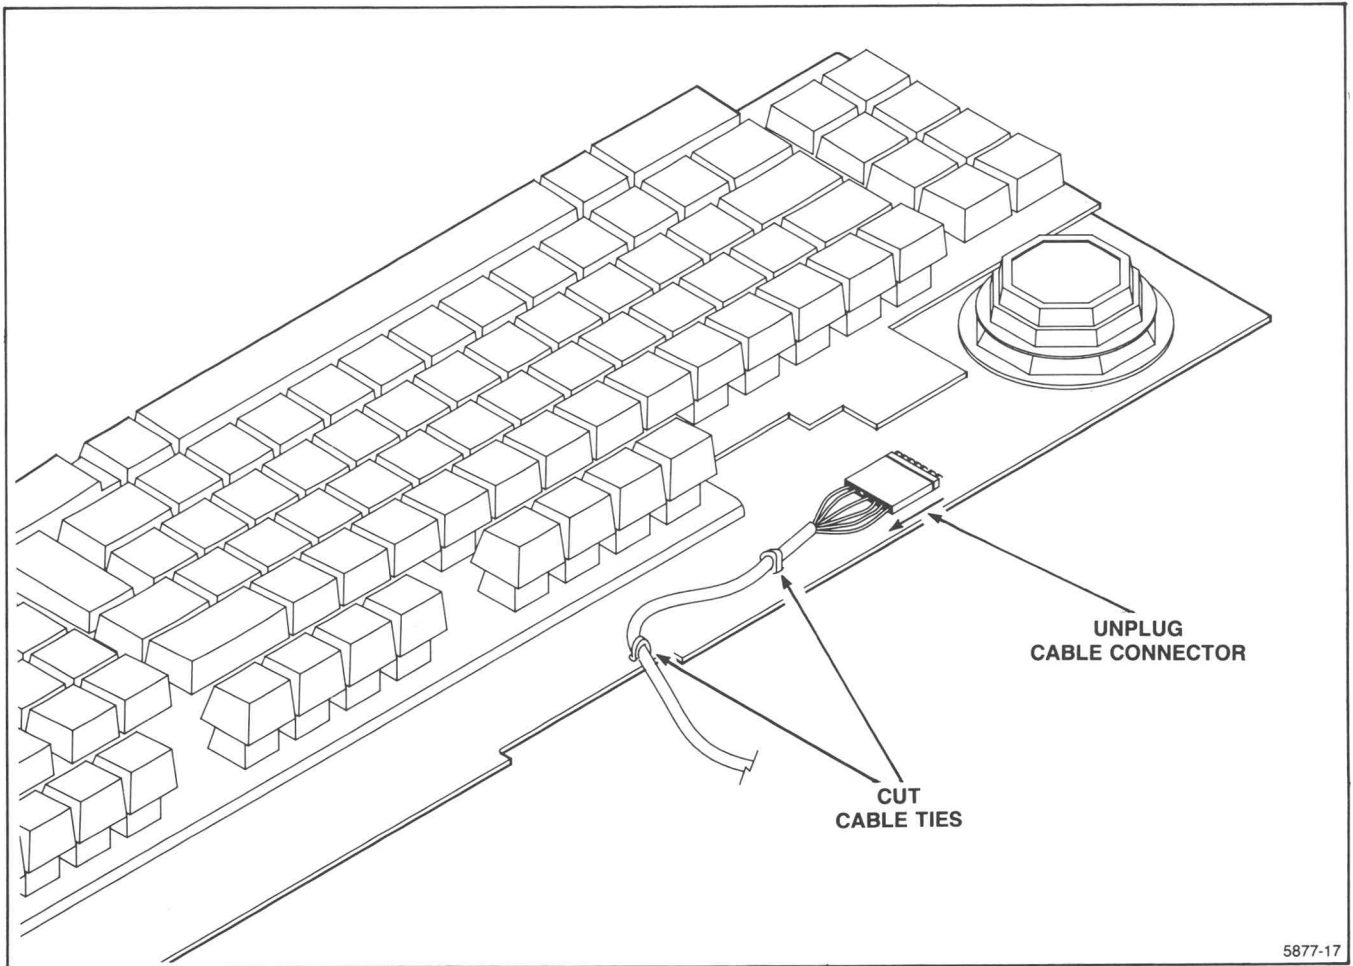

Figure 6-31. Removing the Keyboard Cable.
3. To separate the keyboard cable from the circuit board, unplug its six-pin cable connector and remove the cable-tie restraints. Use wire cutters to cut the cable-ties as shown in Figure 6-31.